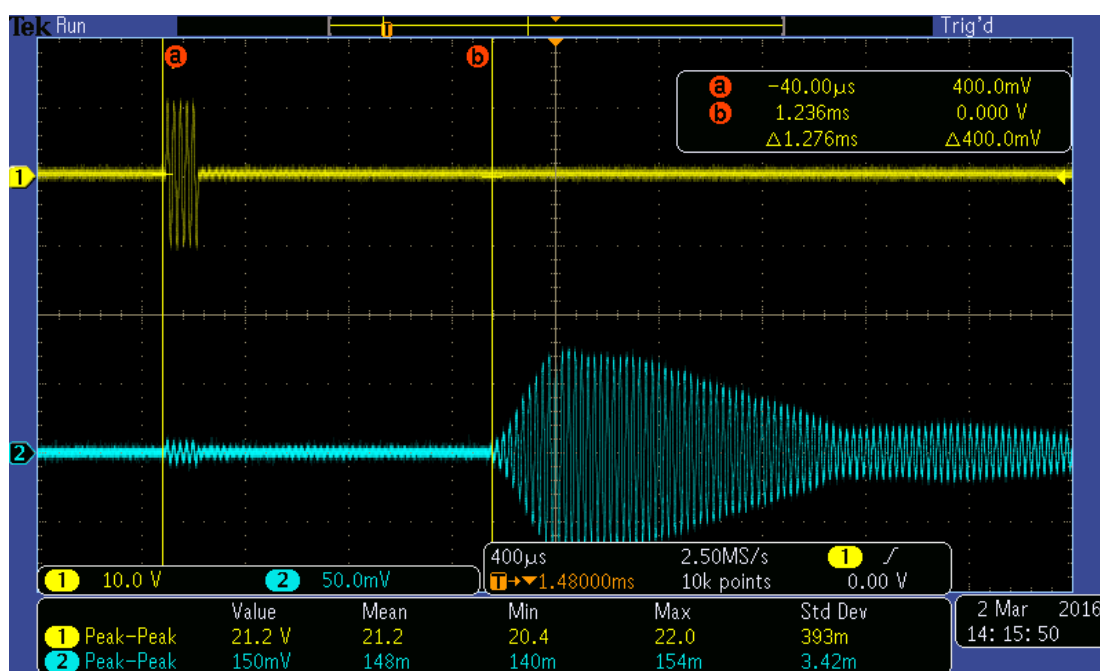

Figure 1. A screen shot of the oscilloscope demonstrating how to use the cursors to measure  $\Delta t$ .
- b. Connect the other end of the BNC adapter to the ultrasonic transducer (UT) that has a “T” engraved on the back. (The “T” stands for transmitter.) The cable has black heat shrink tubing. The receiver has white heat shrink tubing.
11. Use the cursors on the scope to measure  $\Delta t$  between the burst and echo. Cursor (a) should be placed at the very beginning of the burst on CH1 and cursor (b) on the very beginning of the blob on CH2, as shown in Fig. 1.